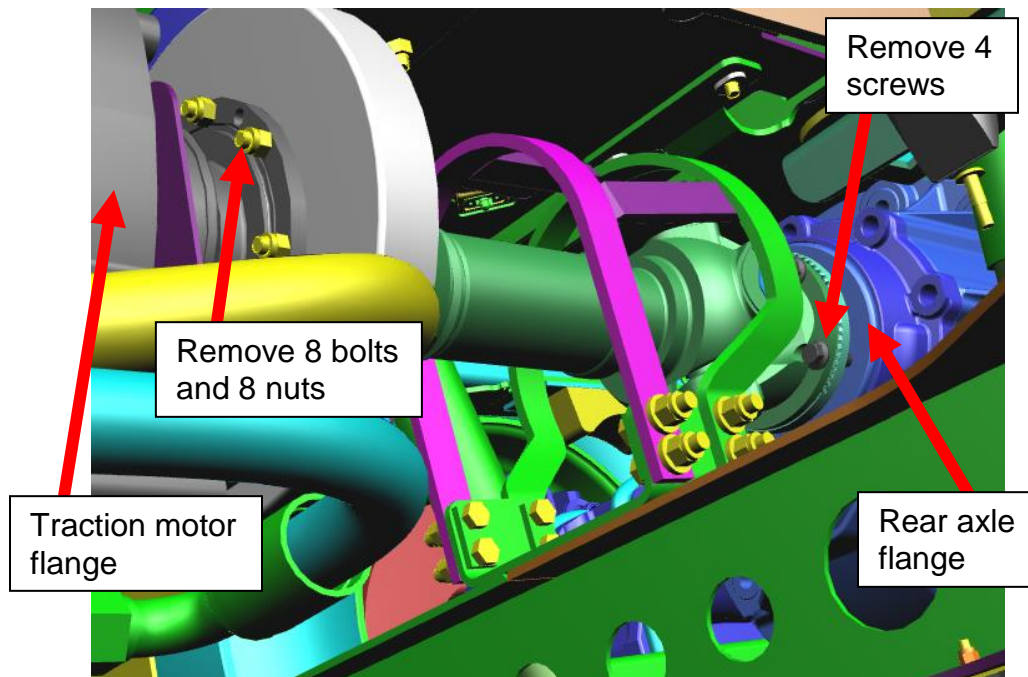

Figure 15: Original driveshaft
4. Remove hardware that fastens the driveshaft flanges to the traction motor and the rear axle. Rotate pinion for better visibility of hardware on driveshaft. See figure 15.